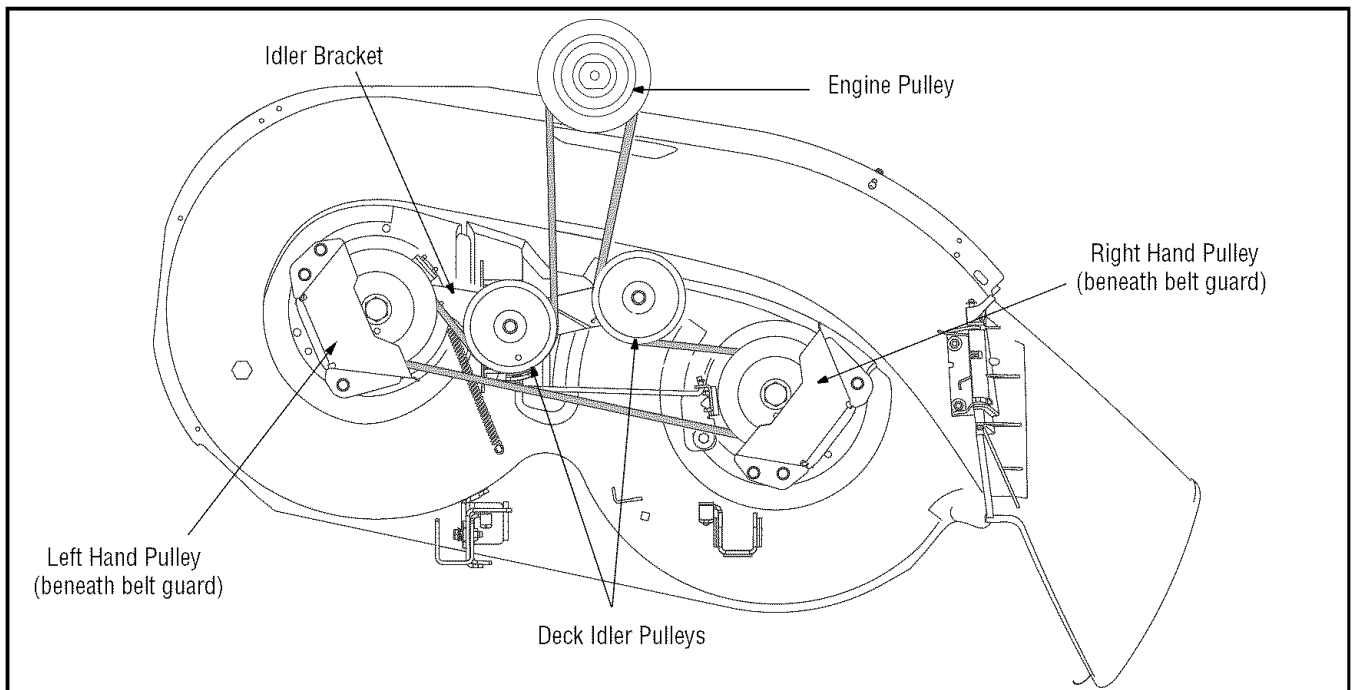

Figure 20
- Remove the belt from around the tractor's engine pulley and idler pulley(s). Refer to **Changing the Deck Belt** on page 24 for detailed instructions. See Figure 20.